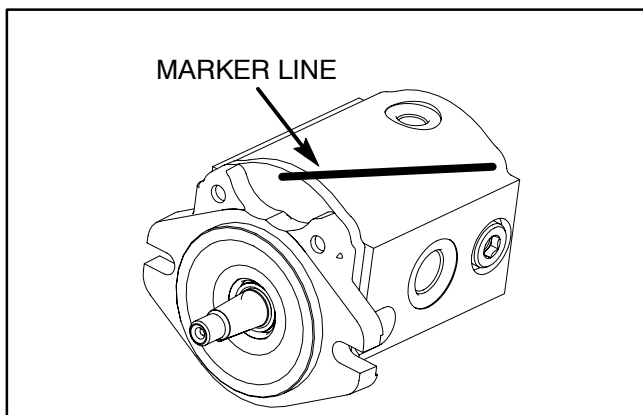

Figure 44.2
2. Use a marker to make a **diagonal** line across the front flange and body for assembly purposes (Fig. 44.2).